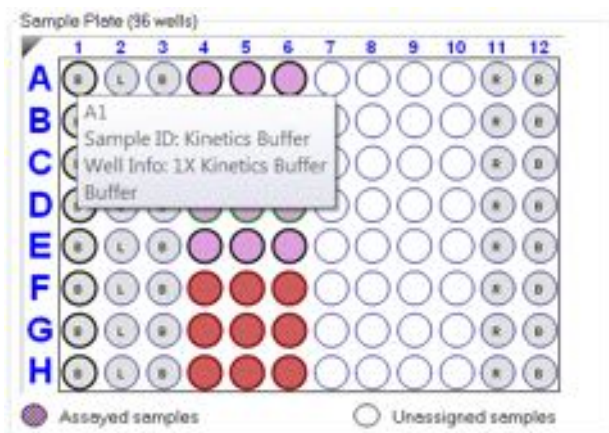

Figure 9-29: Tool Tip of Well Information
2. In the **Sample Plate Map**, double-click the column that is associated with the selected step type. For information about sample plate wells, mouse over a well to view a tool tip (see Figure 9-29).